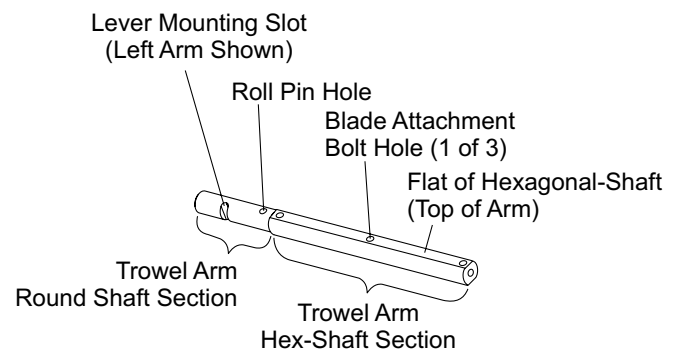

**Figure 39. Bronze Bushings**
5. Examine the bronze trowel arm bushing (Figure 39), and clean if necessary. Replace bushing if out-of-round or worn.